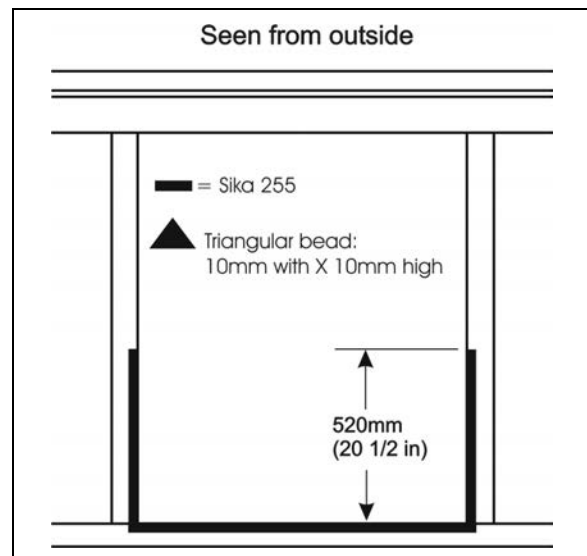

FIGURE 66: AWNING WINDOW – SIK A 255 APPLICATION
7. Apply Sika 255 as per FIGURE 66 (triangular bead: 10mm width X 10mm high).